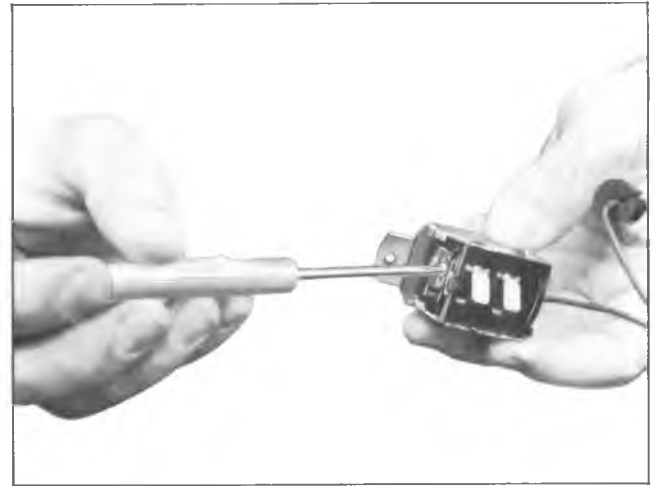

Fig. 32—Thermostatic Switch Adjustment
6. If the outlet temperature was less than the prescribed temperature at the end of each cooling cycle, turn the adjusting screw a partial turn counter-clockwise (fig. 32). If the outlet temperature was more than prescribed temperature, turn the adjusting screw clockwise.